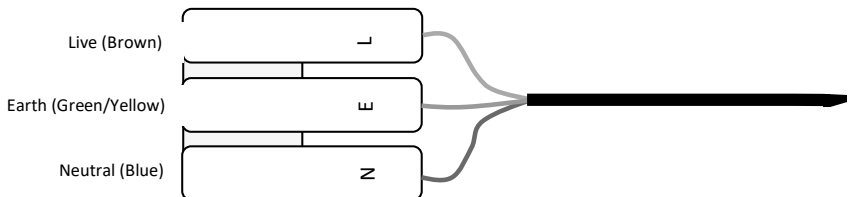

Fig 2
- Connect the Live (brown), Neutral (blue) and Earth (yellow and green) via the three-way terminal connector (see Fig 2)
- Wire the mains cable as shown in Fig 2